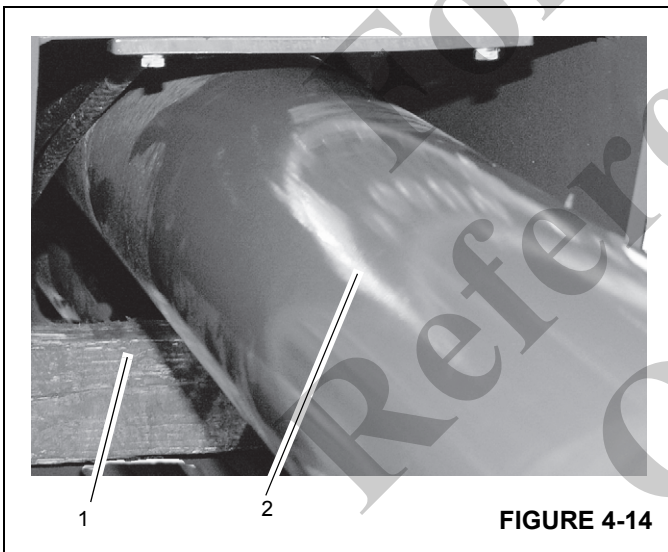

FIGURE 4-14
3. Place blocking (1) under cylinder (2) (Figure 4-14) and remove the two bolts and washers securing the cylinder barrel to the rear of the outer mid.